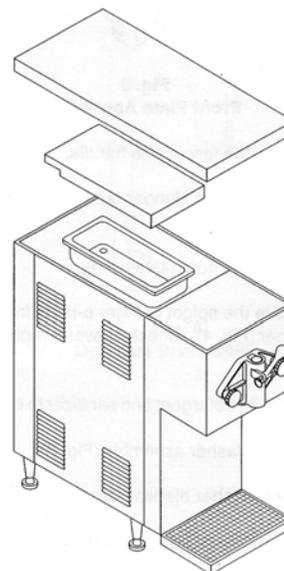

Fig. 2
3. Remove the dispensing head top cover and the mix pan cover (Fig. 2).